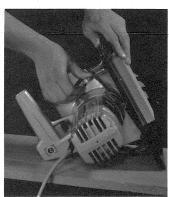

FIGURE 5
2. Place the saw in the position shown in Figure 5 and loosen wing nut.